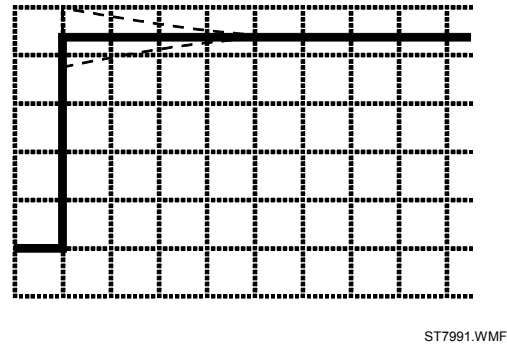

Figure 5-10. 10:1 Probe Calibration
7. Press **F4** to start the probe calibration. The first step is to manually adjust the square wave response to a pure square wave (pulse top must be straight, refer to fig. 5-10). The trimmer to be operated is located in the probe housing and can be reached by rotating the centre part of the housing. For further information refer to the probe instruction sheet. When done, press **F4** to start the DC calibration that is performed automatically. The Probe Calibration is OK if all instructions displayed on screen are finished successfully.